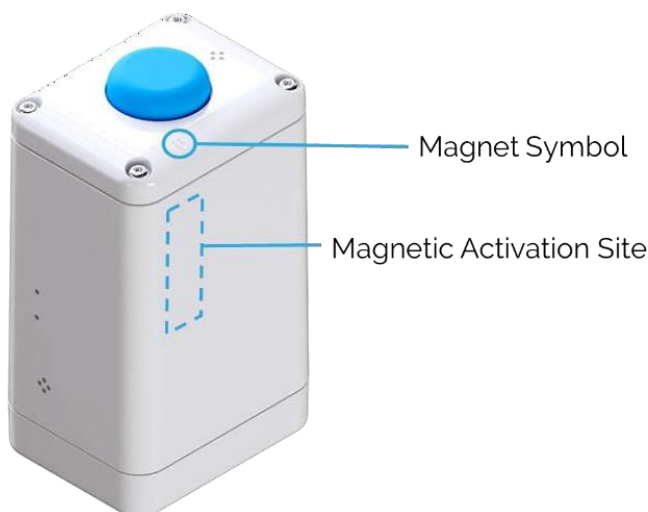

Figure 2-5: Magnetic Activation Site
1. Place magnet against the enclosure at the magnetic activation site as in Figure 2-5.